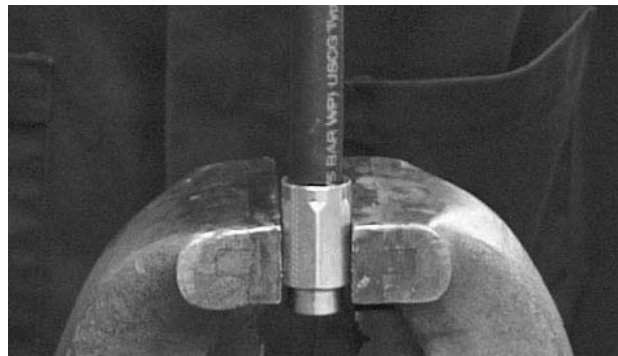

Figure 11-19. Whip Hose Socket in Vise
1. Clamp the Hose Socket in a vise with the attached Whip Hose standing vertically above the jaws. See Figure 11-19.
2. With its larger internal bore (hose end) facing up, clamp the Hose Socket (17) in a vise. Refer to Figure 11-19.